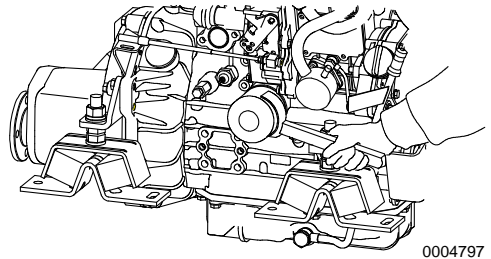

Figure 2
2. Turn the engine oil filter (**Figure 2**) counterclockwise with a wrench.